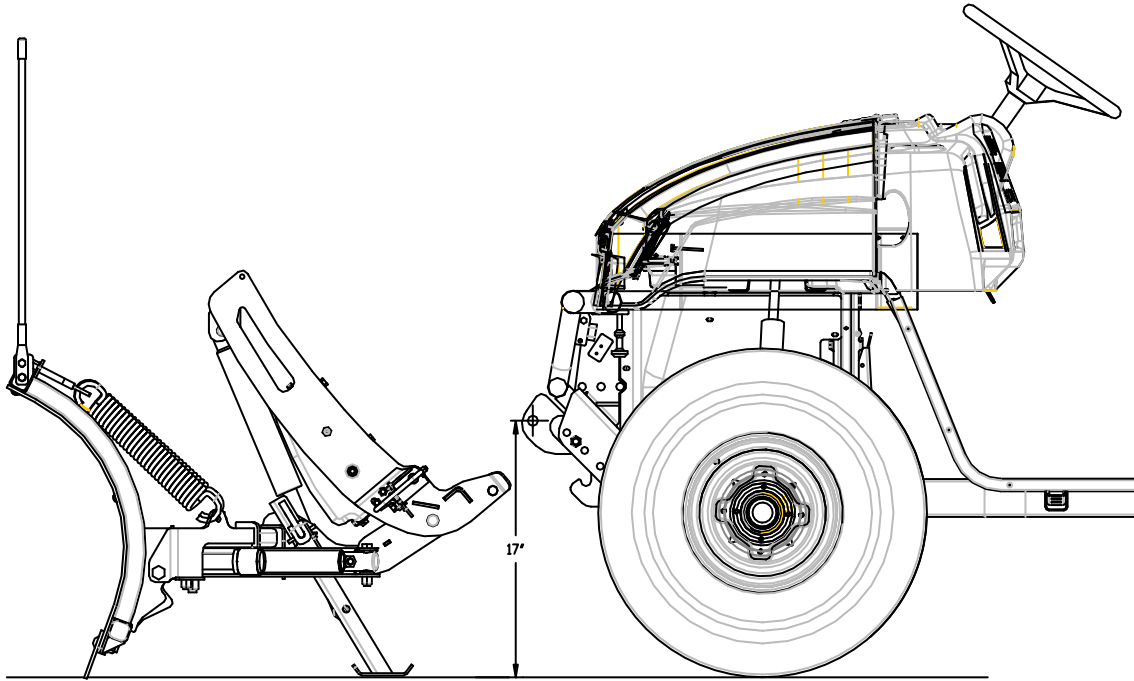

Figure 2
3. Align holes in back of Skidplate Assembly (75) with two holes in back of Differential mount plate. Using M12 x 1.25 – 60mm Hex Head Bolts (G), ½" washers (E), 7/8"x5/8"x1" Spacers (75A), and M12-1.25 nylon lock nuts (F) attach Skidplate Assembly (75) to Differential mount plate. Leave finger tight.
4. With Skidplate Assembly in place, tighten back two bolts M12 x 1.25 – 60mm (G) first, and then proceed to tighten front four bolts M10 x 1.25 – 90mm (I).
NOTE: The proper height adjustment for the Pushbeam (62) is approximately 17" from the ground to the center of Pushbeam (62) pin-receiving hole (See Figure 2) for Plow System.
5. Using 3/8"-16 X 1" Hex Head Bolts (A), 3/8"-16 Nylon Lock Nuts (C), ½"-13 X 1-1/2" Hex Head Bolts (B), and ½"-13 Nylon Lock Nuts (D), mount Pushbeam Assembly (62) to Skidplate Assembly (75).